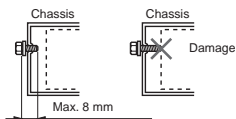

Figure 3
4. Use the enclosed screws for installation. Using other screws can cause damage. (Figure 3)